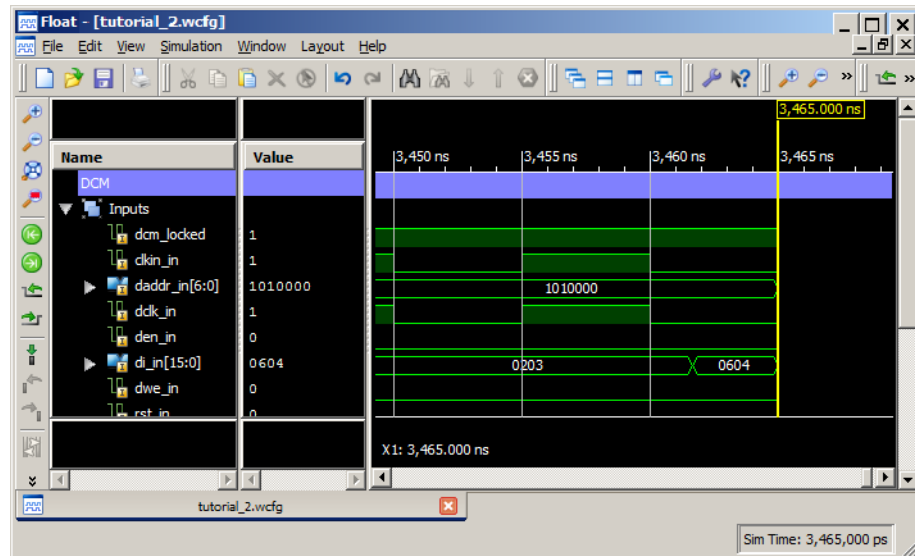

Figure 3-38: Wave Window: Analyzing Output of DCM DI\_IN Input Bus
- Right-click anywhere on the executable line and select **Toggle Breakpoint** to add the breakpoint (see Figure 3-38).
4. Continue stepping through the simulation until the `di_in` bus signal is updated with a new value (you might need to zoom in to observe the change). At around 3,465 ns, the bus should be updated from 0203h to 0604h (see Figure 3-38).